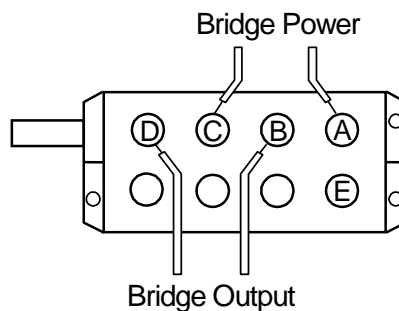

Fig. 4-2 Wire connection on Bridge Box
- b. This is a bridge for measuring strain. Various methods are used for connecting strain gauges. For details on these connecting methods, refer to “Examples of Strain Gauge Bridge Configuration” on page 4-3. When using various types of transducers via the bridge box, make connections as shown in Fig. 4.2.